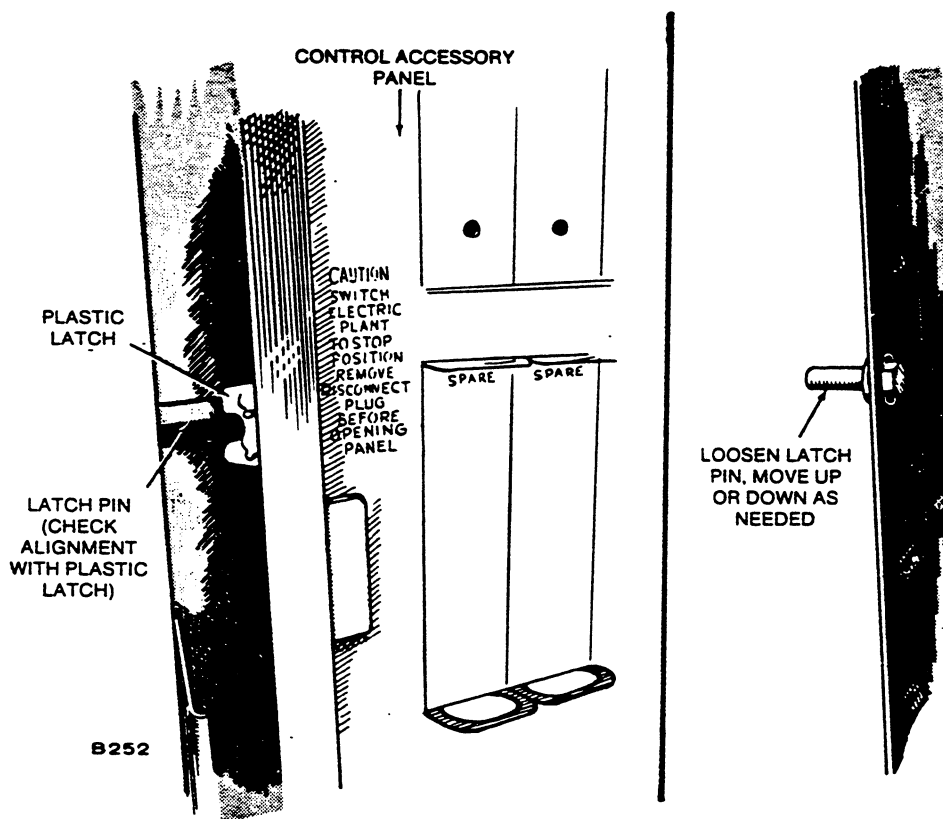

FIGURE 2 ADJUSTMENT OF LATCH PIN
4. Loosen the latch pin and move the latch pin up or down in the slot as necessary (Figure 2). Then tighten.